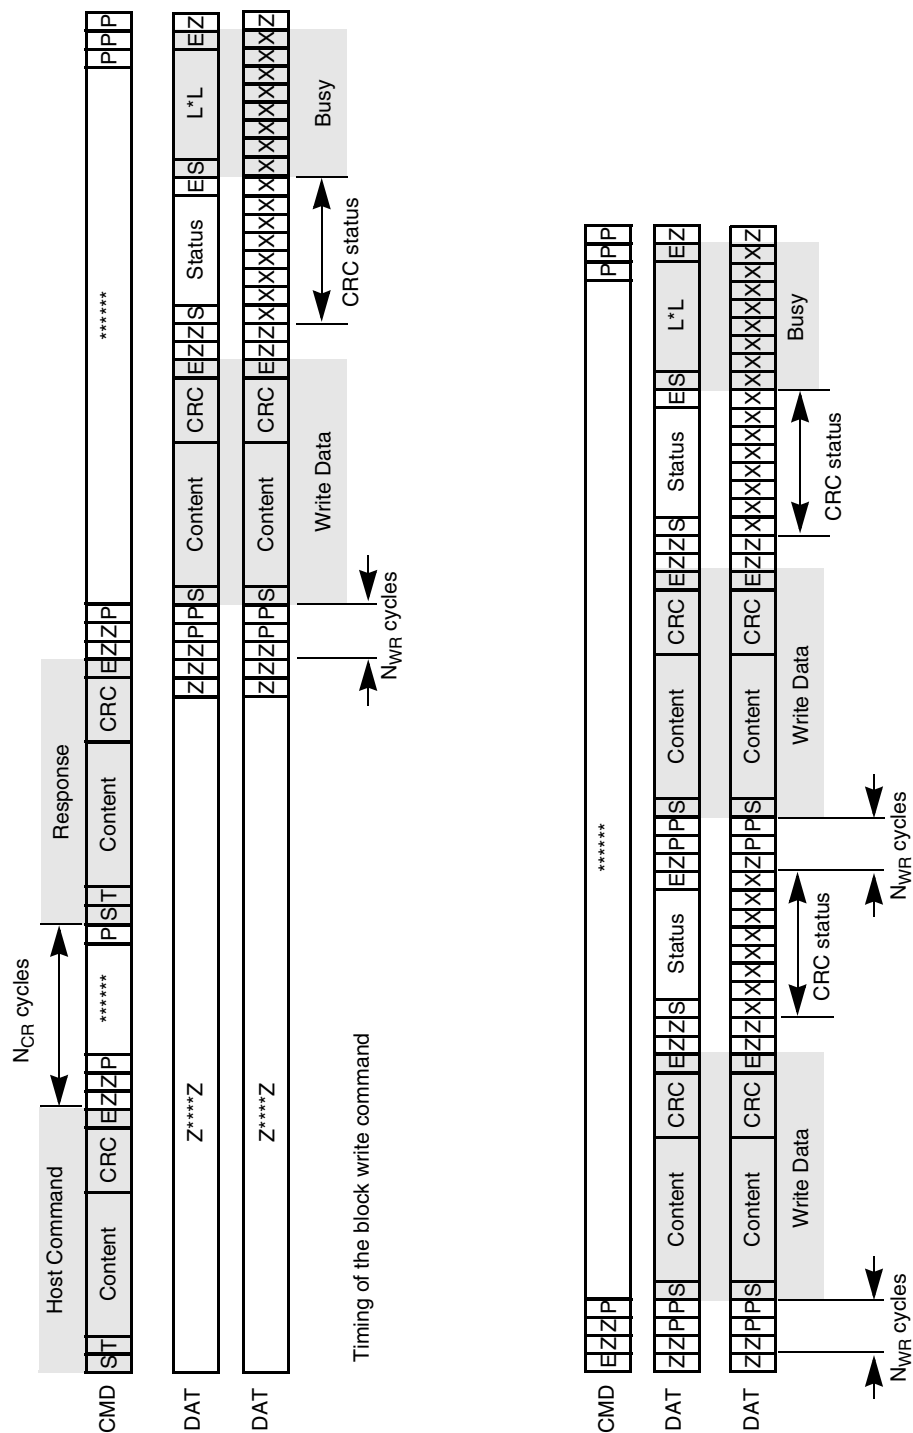

Figure 42. Timing Diagrams at Data Write
Figure 42 shows the basic write operation timing. As with the read operation, after the card response, the data transfer starts after N_{WR} cycles. The data is suffixed with CRC check bits to allow the card to check for transmission errors. The card sends back the CRC check result as a CC status token on the data line. If there was a transmission error, the card sends a negative CRC status (101); otherwise, a positive CRC status (010) is returned. The card expects a continuous flow of data blocks if it is configured to multiple block mode, with the flow terminated by a stop transmission command.